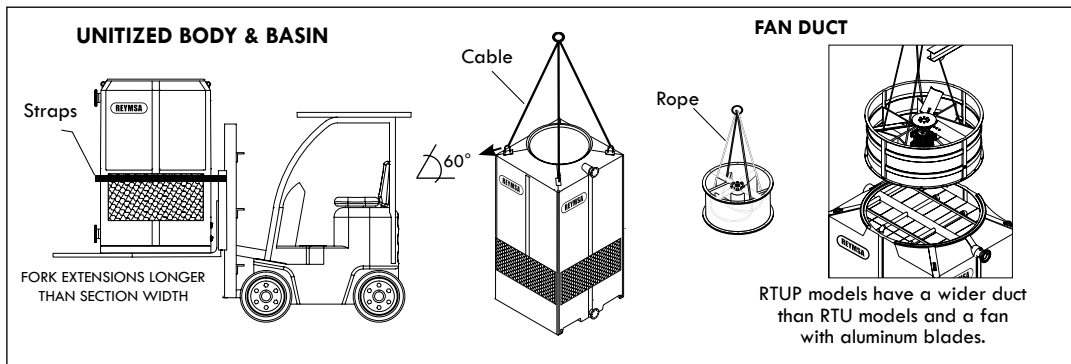

Figure A-34: Single Fan Tower fork and crane lifting
- B. After verifying the equipment is received in proper condition, proceed to unload it piece by piece, with a crane or forklift of the appropriate capacity (see Figure A-34 for reference). If you unload with a forklift, use fork extensions of the proper pallet length according to the width of your model.
- D. For crane lifting, it’s recommended to use a minimum lifting angle of 60° between the strap and the horizontal. The Tower has U-bolts for lifting, one on each corner. Place the straps through the u-bolts (as shown in Figure A-34) and use a spreader bar to avoid damage on the upper edge of the Tower. Don’t balance until tensing the straps.